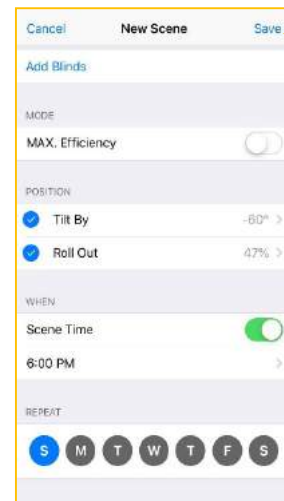

Figure 30
- 10.7.4.** Click **Save** to save changes (Fig. 30).